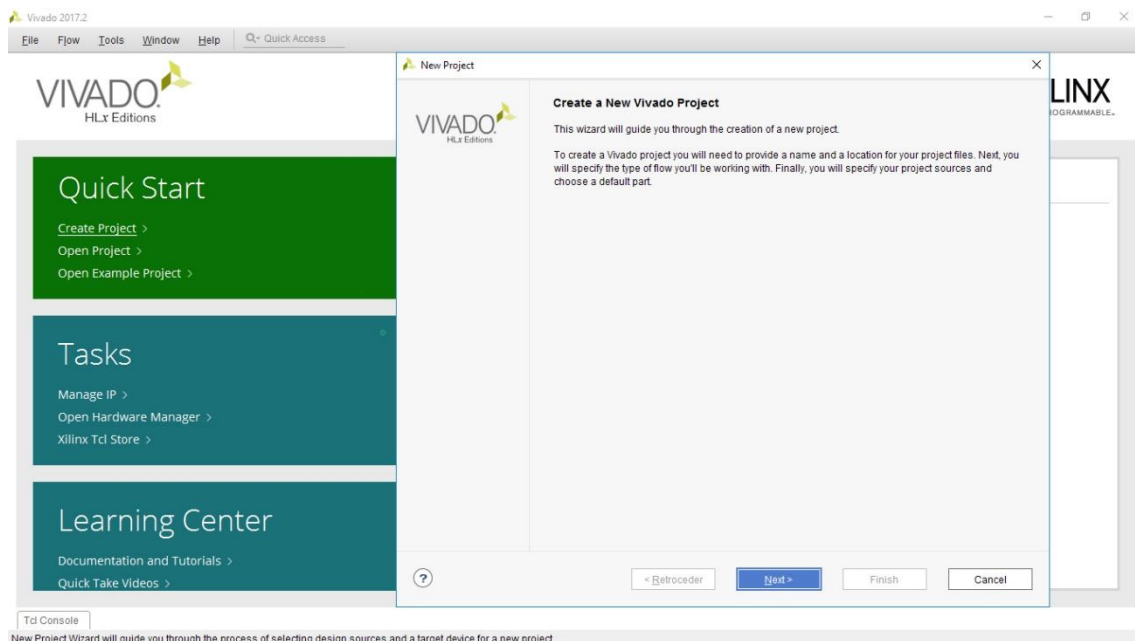

Figure 1
1. In the **Quick Start** toolbar click **Create Project** or select **File → New Project...** in the Vivado menu bar; the **New Project** wizard appears (Figure 1)